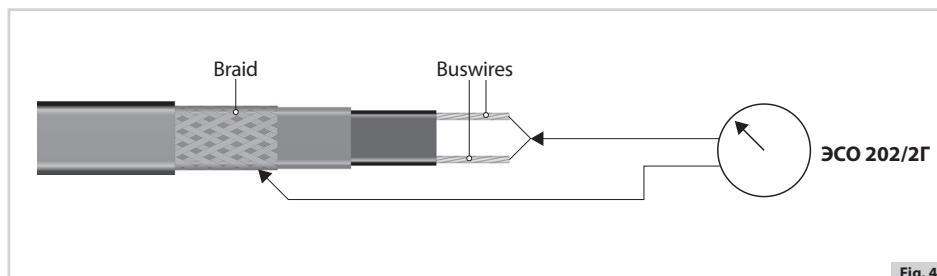

Fig. 4
- 5.13 Self-regulating Trace Heaters have a temperature-dependent resistance and the resistance value is not a reliable guide for determining the connected load. For this reason, self-regulating Trace Heaters are only tested for the insulation resistance of the heating element (measured between the buswires and the Trace Heater shielding) and the sheath resistance of the Trace Heater (measured between the Trace Heater shielding and the ground loop) (see Figure 4).